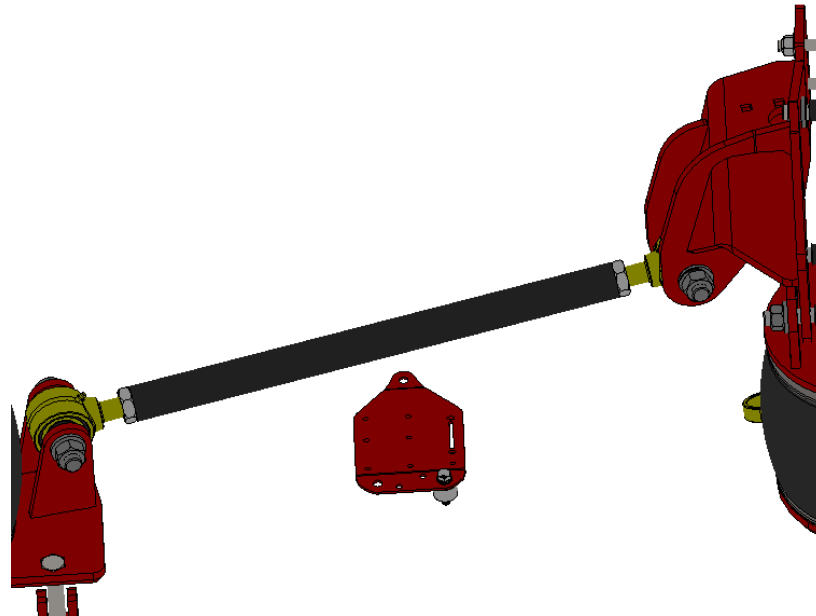

Figure 27
- 16:** Locate the Panhard Bar P/N 10007434, Johnny Joints P/N 80281 & 80282 and Jam Nuts 13210 & 13211. Assemble Jam nuts to Johnny Joint ends and install Johnny Joints to Panhard Bar. It fastens to the upper and lower Panhard bar mounts with  $\frac{3}{4}$ " x 4- $\frac{1}{2}$ " bolts. Torque bolts to 200 ft./lbs. See figure 27.